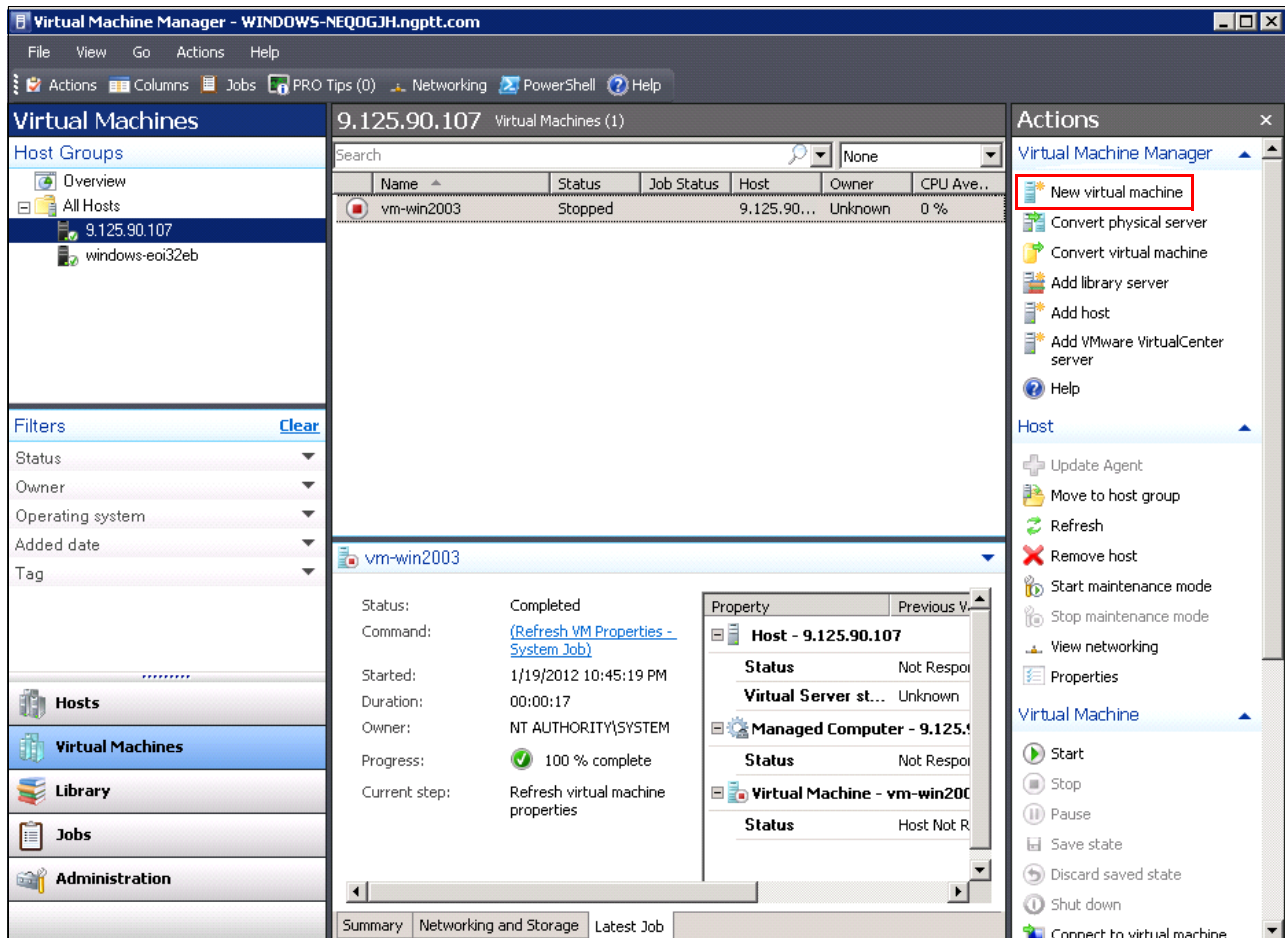

Figure 3-12 Creating a new virtual machine
- Choose the **Virtual Machines** tab in the left navigation window. Click **New virtual machine** in the Actions window on the right, as shown in Figure 3-12.